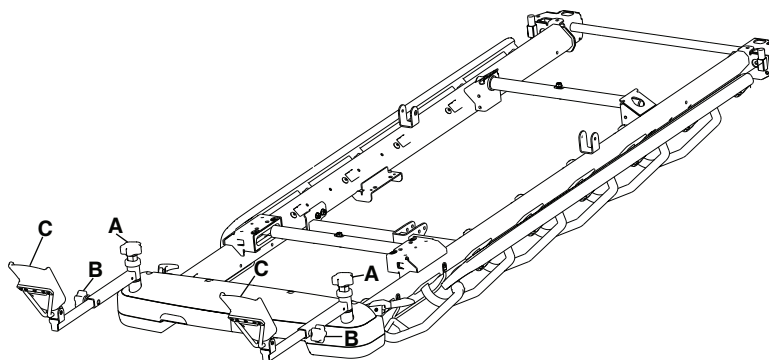

Figure 30 – Positioning the foot supports
1. Loosen the knee knob (A) at the top of the foot supports to adjust the side-to-side angle of the foot supports (Figure 30).
2. Tighten the knee knob (A) to lock the foot supports in the desired position.